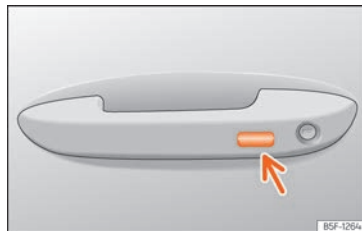

Fig. 102 Door handle: sensor surface.
- **OR** using the Keyless Access system (only locking): Press and hold the locking sensor surface  **Fig. 102** (arrow) on the door handle for several seconds to close the windows and the sunroof. If you release the sensor surface, the closing movement stops.
- Press and hold the locking sensor surface »» Fig. 102 (arrow) on the door handle to close the sunroof. If you release the sensor surface, the closing movement stops.